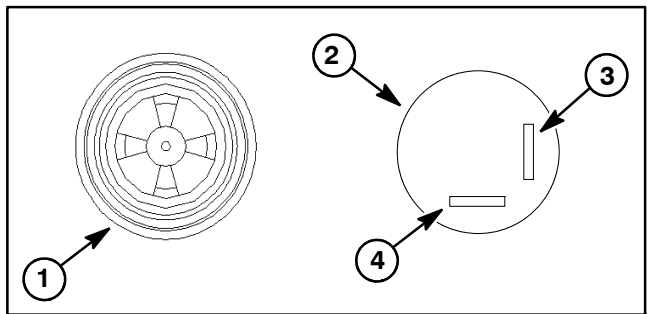

Figure 52
4. Using jumper wires, correctly connect 12VDC source to the alarm terminals noting polarity shown in Figure 52.